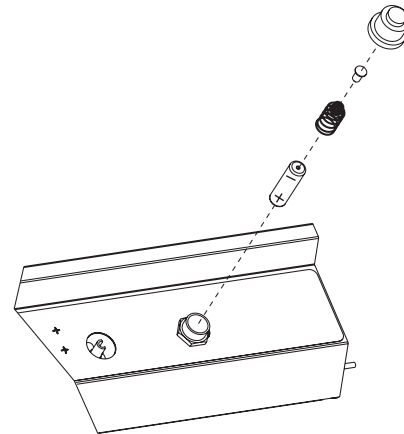

Figure 31
7. Re-attach the ignitor to the control panel, then tighten nut and insert AA battery, positive side down, and replace ignitor button. See Figure 31.
- R3B models only: Place the briquet rack over the blue flame burner only. **See Figure 31.**